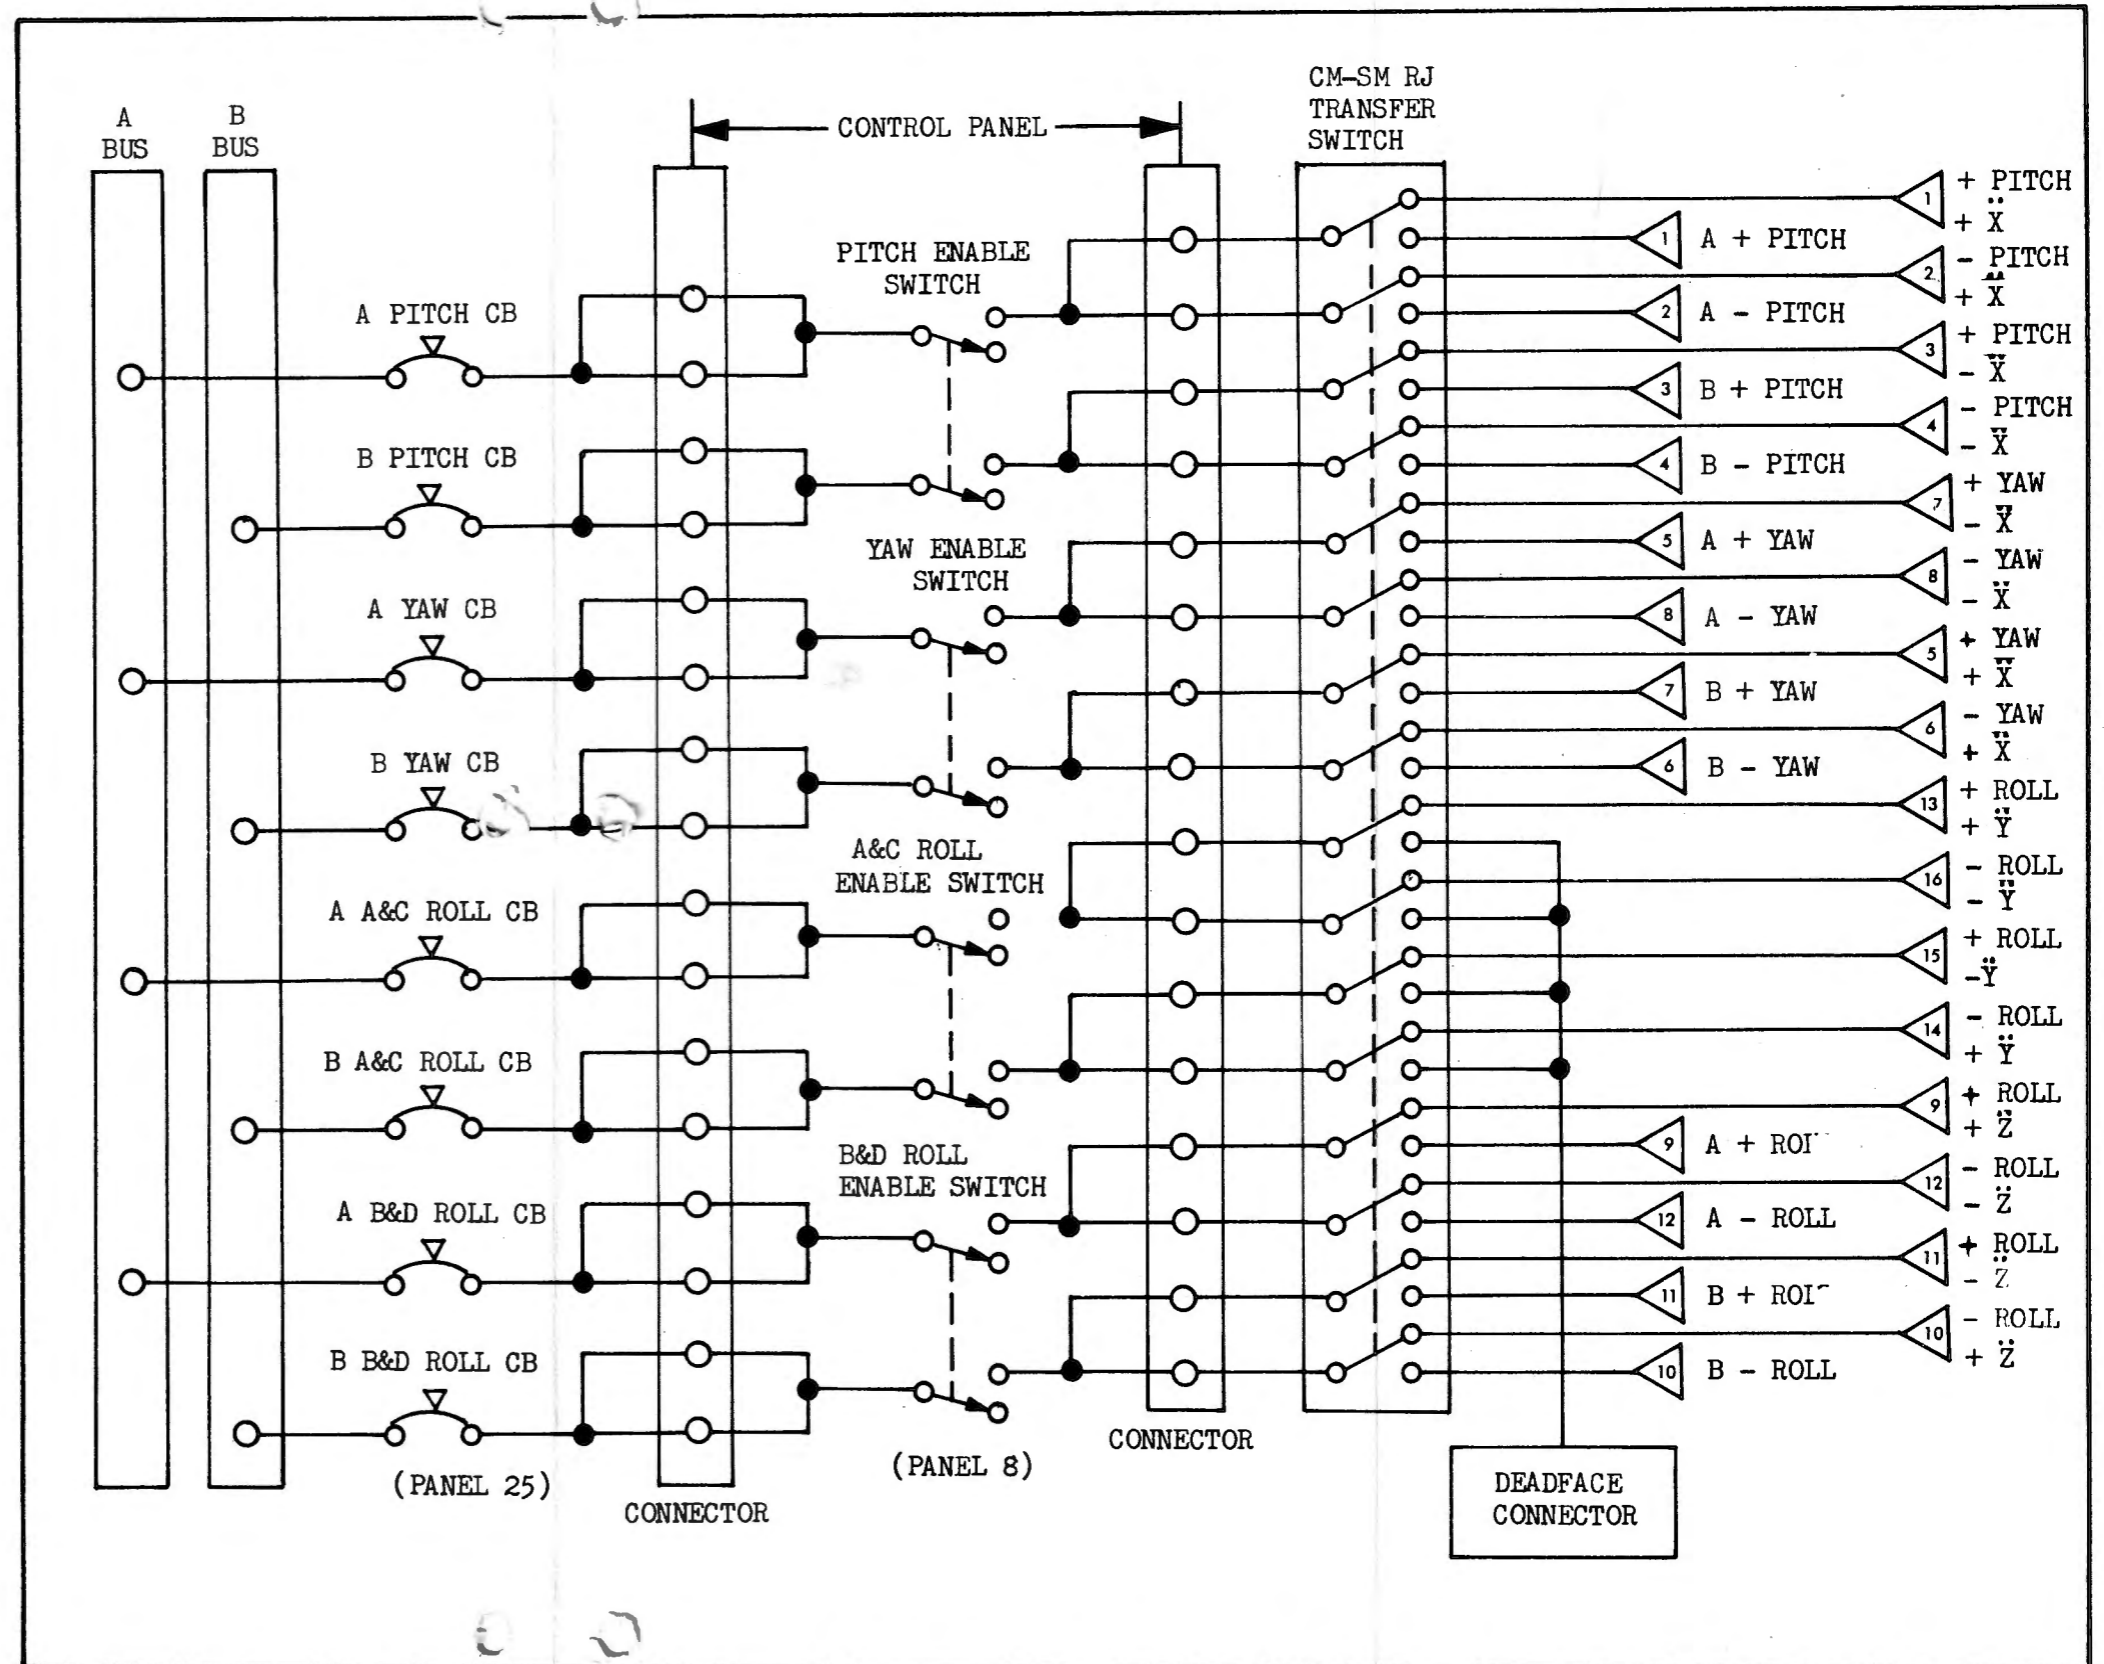
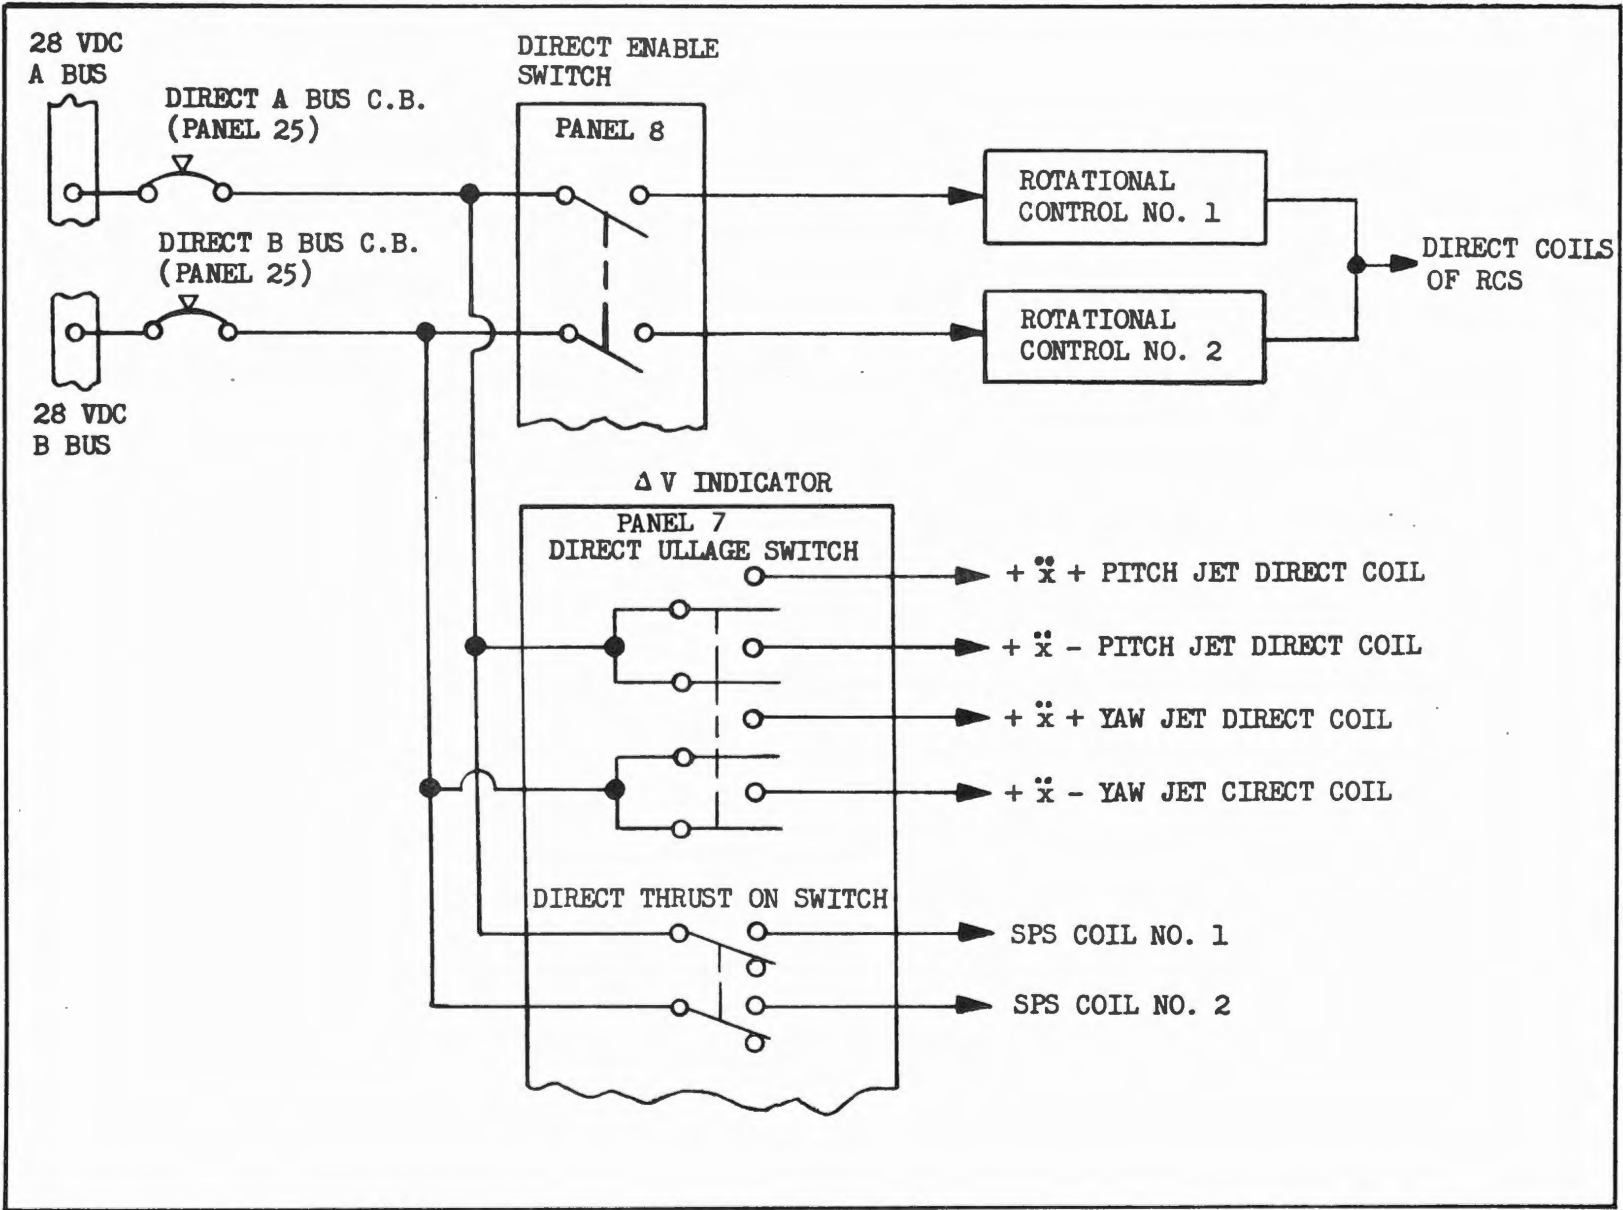
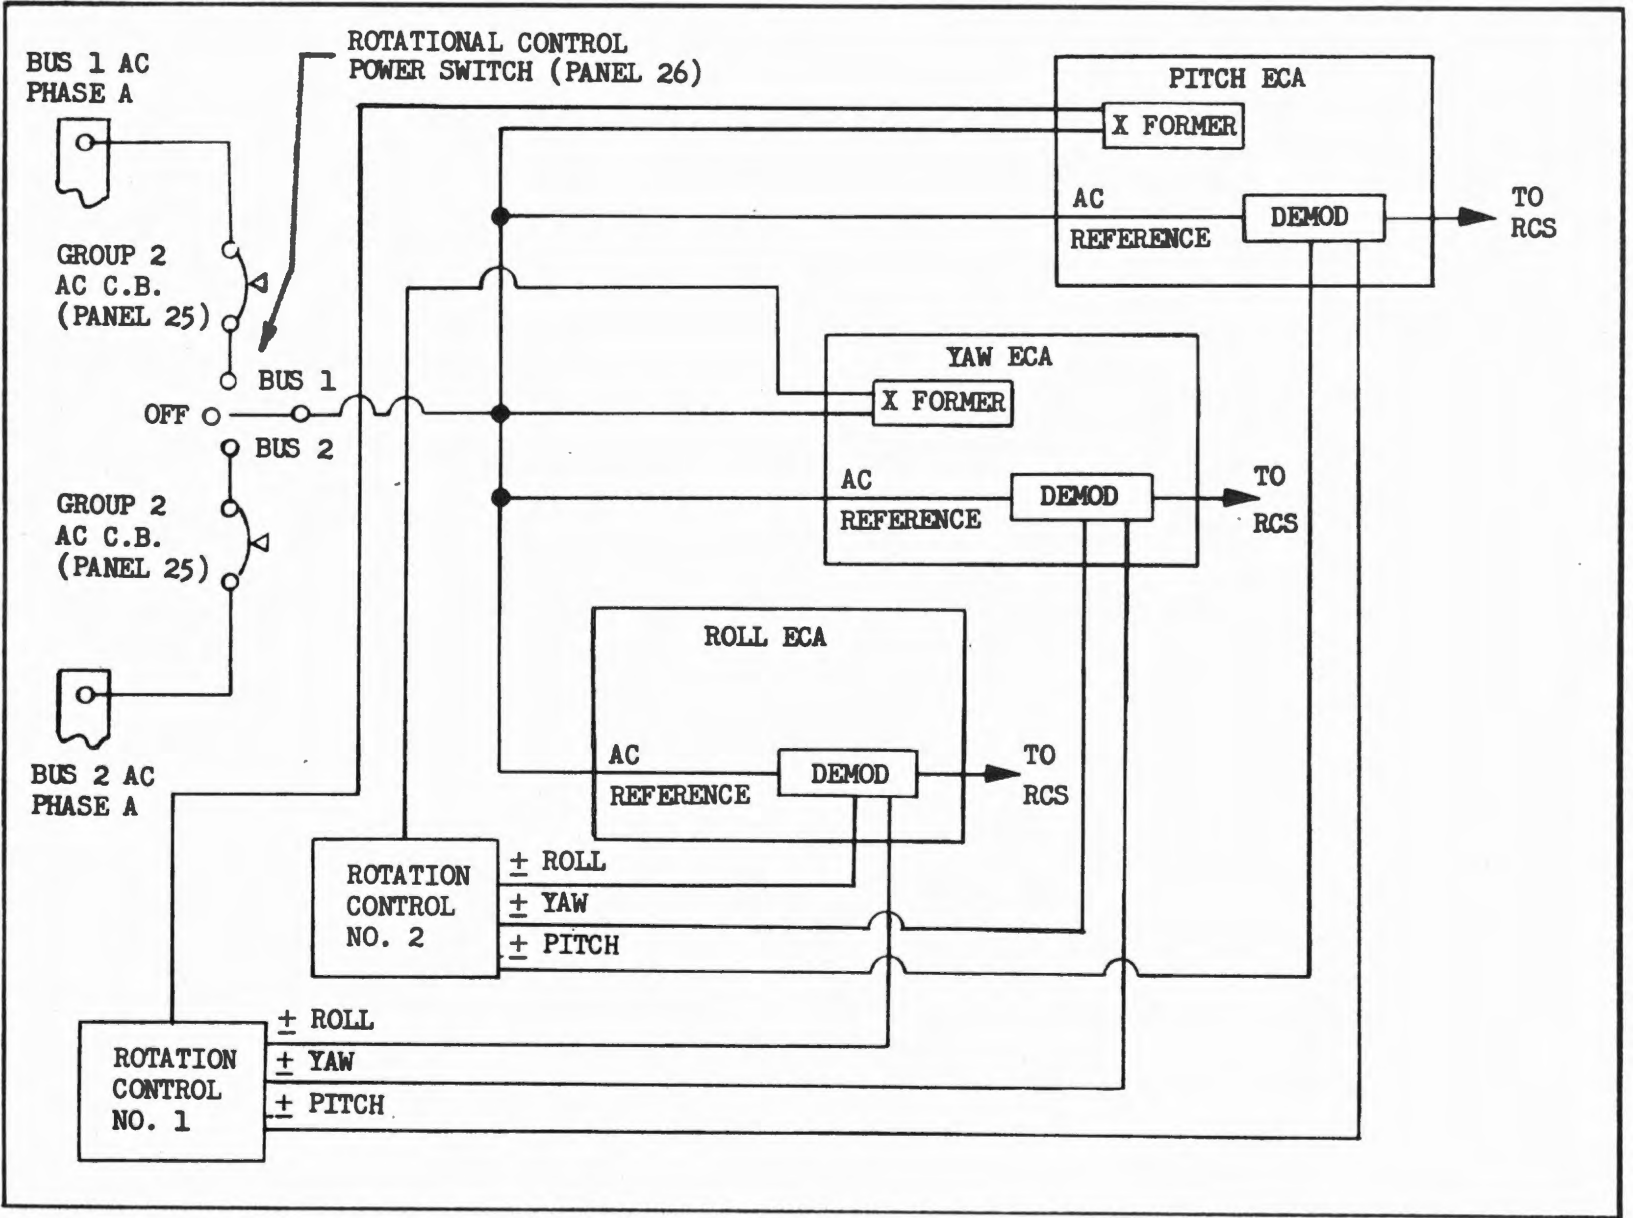

Figure 5-14. DC Power Distribution to Automatic RCS Coils
Figure 5-15. DC Direct Power Distribution
Figure 5-18. Proportional Control Power Distribution
5.2.1.2.1 Automatic reaction control system coils have been divided functionally and equally between the two dc buses as shown in Figure 5-14. Direct dc power was similarly divided between the two 1. rotation controls, 2. SPS engine on-off control paths, and 3. direct ullage switch contacts (see Figure 5-15). Power (dc) for the translation controls was taken from the two normal dc bus circuit breakers (A dc bus to Translation Control No. 1 and B dc bus to Translation Control No. 2). Control panel power is similarly taken from the normal dc circuit breakers. In this case, the power is tied together through isolation diodes and then distributed to the control mode and submode switches.
5.2.1.3.2.2 The SPS direct on off dc power is taken in parallel from the A and B dc Direct circuit breakers to the two independent control paths as shown in Figure 5-15.
5.2.1.3.2.4 Rotation control excitation is taken from the group 2 ac bus. Phase A only is taken to the pitch and yaw ECA's from the power switch and applied to the primary of two step down transformers. The transformer in pitch is used to excite the three proportional control transducers in Rotation Control No. 1 and the transformer in yaw is used to excite Rotation Control No. 2. The phase A ac is also used in the pitch, yaw, and roll ECA's as a demodulator reference for the Rotation Control outputs. This signal flow is shown in Figure 5-18. The outputs are used for either rate or acceleration control inputs in the MTVC mode and for proportional rate control in all other modes.
5.2.1.4.1.2 It is critical that one of the Rotation Controls work for Entry. The direct power (Figure 5-15) for the two controls is provided independently. Most of the path for proportional control is separate also. The single common point for all three axes is the Rotation Control ac power switch (Figure 5-18). The common point by control channel is the demodulator or downstream electronics. The alternate path for either of these problems is direct control.
5.2.1.4.1.3 Failure of a dc bus, such that the bus is lost for the remainder of the mission, can be corrected by selecting the other bus. One half of the automatic RCS control will be lost with the permanent failure of either dc bus. Direct control and the other half of the automatic RCS control will remain functional. One translation and rotation control pair will loose their dc power which applied breakout signals; translation commands; direct control; and MTVC selection. The other pair will be unaffected. Direct power will be lost to 1/2 of the direct ullage jets, one of the SPS engine on-off circuits, and (as just mentioned) one of the rotation controls. Control mode selection will not be affected since its supply is redundant. See Figure 5-14 and 5-15.
5.2.1.4.3 Direct Power. Direct power is connected as shown in Figure 5-15. By inspection, an open at any point will cause loss of all functions beyond that point. As the two independent paths exist a limited operational degradation occurs for any open failure.
5.2.1.4.4 Automatic RCS Power. Automatic RCS 28 vdc power is distributed as shown in Figure 5-14. An open at any point will preclude firing any of the RCS downstream of that point through the automatic circuitry.